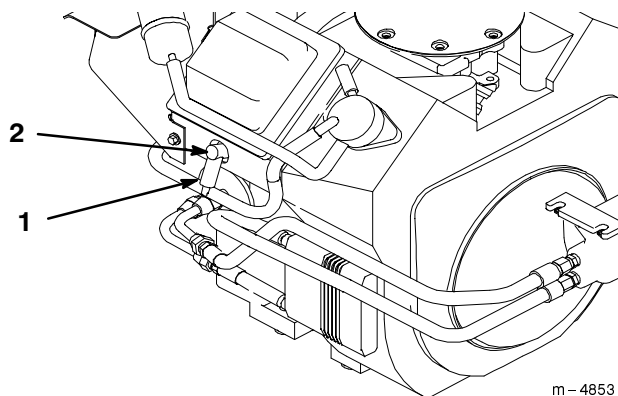

Figure 60
2. Pull the wire(s) off the spark plug(s) (Fig. 60). Now clean around the spark plug(s) to prevent dirt from falling into the engine and potentially causing damage.
3. Push the wire(s) onto the spark plug(s) (Fig. 60).